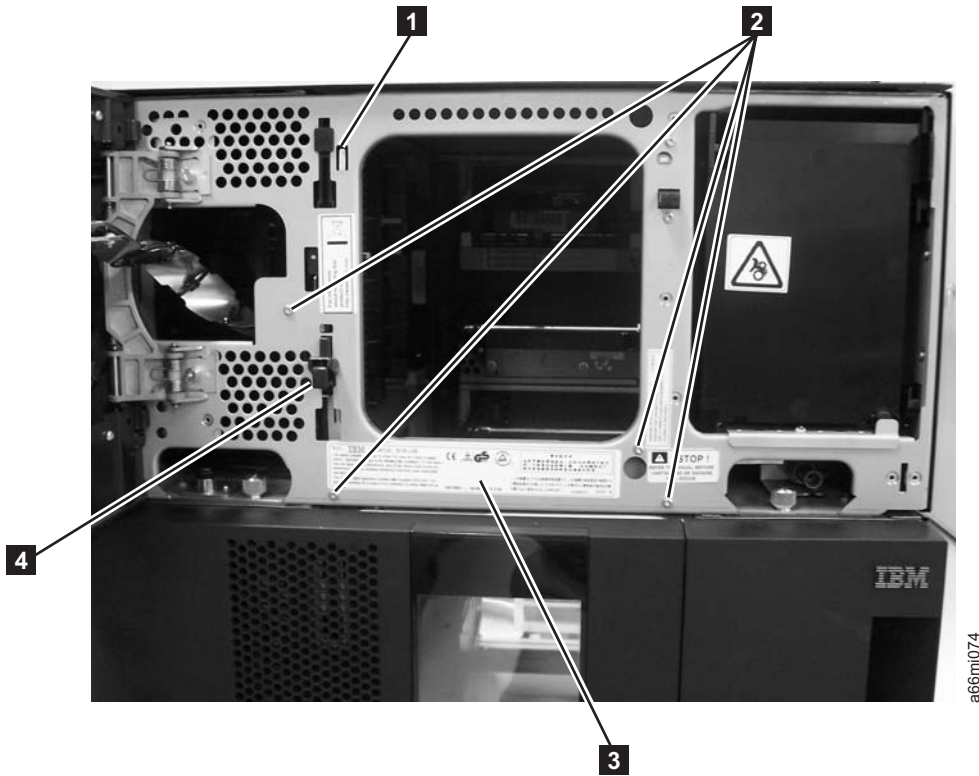

Figure 8-74. Four screws on front of door and plastic cable guide
- g. Remove the 4 screws (see **2** in Figure 8-74 on page 8-76) from the front of the door, holding the long plastic cable guide to the door.